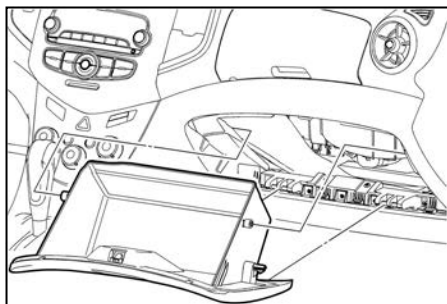

Fig. 24
2. Disengage compartment lid stops and remove glove compartment (see Fig. 24).